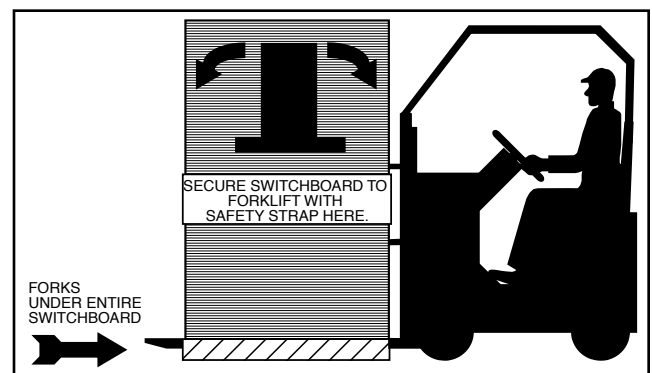

Figure 3
b) **Forklifts:** Forklifts are an alternate method of handling switchboards. Verify that the capacity of the forklift is more than the weight of the load to be lifted. Always insure that the fork lengths extend under the entire switchboard and extend beyond the opposite side (see Figure 3). Move the forks to the furthest-most left and right locations and use a safety strap when moving or handling switchboards.